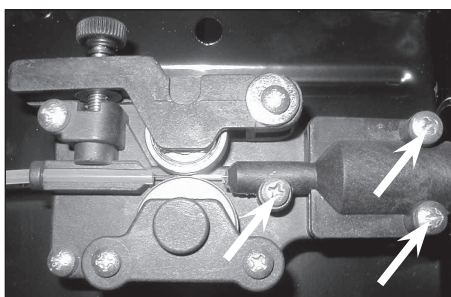
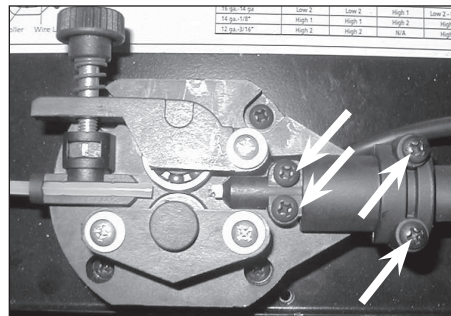

Figure 1a – Remove these three screws
Figure 1b – Remove these four screws
2. Open wire feed door and locate drive deck. Remove torch cable cover by removing three screws (see figure 1a). WG3020: Remove four screws (see figure 1b).